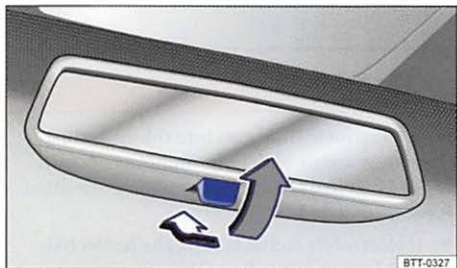

Fig. 83 Manually adjustable inside mirror.
- To dim mirror, move the lever backwards ⇒ fig. 83.